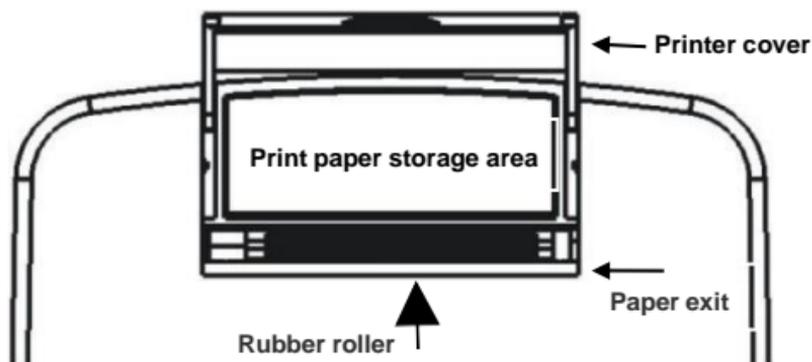

Figure 2.2
1. Open the printer cover upwards, as shown in Figure 2.2.